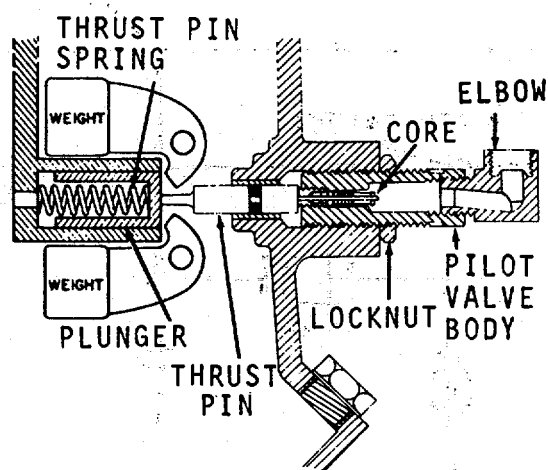

Figure 3-3.1. Adjusting the Unloader Pilot Valve (Model 234C2A).
Page 3-6. Figure 3-3.1 is added: Adjusting the unloader pilot valve (Model 234C2A).
b.1. Adjustment (Model 234C2A). To adjust the unloader pilot valve, refer to figure 3-3.1 and proceed as follows:
(1) Stop the compressor, remove elbow from the pilot valve body. Loosen locknut and remove the pilot valve body.
(2) Screw the pilot valve assembly into the frame cover until the thrust pin is felt, then advance valve another 1/4. to 1/2 turn and tighten locknut.
(3) Install elbow into the valve body, then reconnect tubing.
(4) Start the compressor, then place hand over pilot valve tube to atmosphere.
(5) If there is no flow of air, pilot valve is properly adjusted. When air is evident, readjust valve starting with step (i).